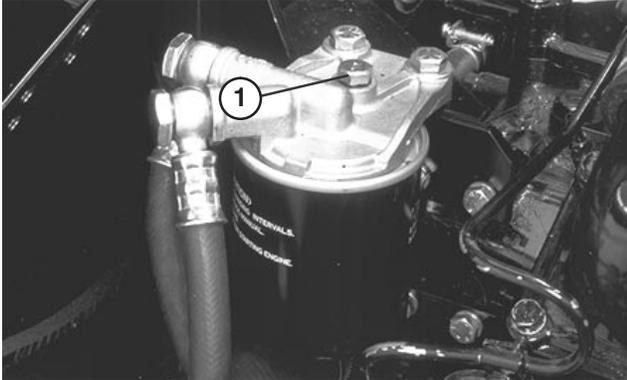

Figure 24
3. Loosen air vent plug on engine fuel filter assembly about 1–1/2 turns (Fig. 24).